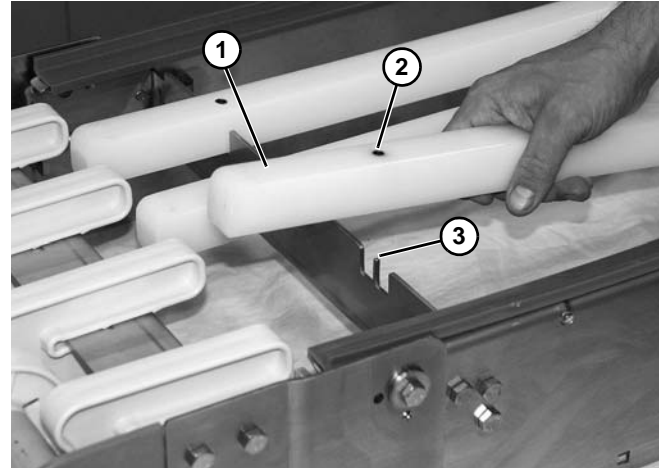

Figure 43
2. Remove worn wear strips (**Figure 43, item 1**) from the frame notches.
3. Attach new wear strips by installing the locating hole (**Figure 43, item 2**) over the tab (**Figure 43, item 3**) on the crossmember.